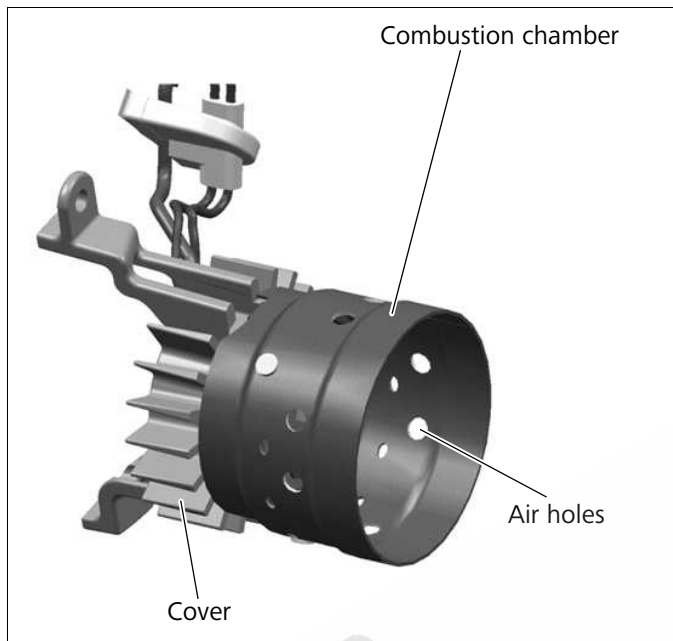

Fig. 702 Combustion chamber
- The cover and the combustion chamber (Fig. 702) must be firmly secured and have no play (check by lightly moving). The burner unit must otherwise be replaced.
- The fuel pipe must be firmly secured to the back plate and must have no play (check by lightly moving the fuel pipe). Replace the burner unit if there is play between the fuel pipe and back plate. The combustion chamber (Fig. 702) should not be damaged (e.g. dented). A dented combustion chamber can cause poor combustion or coking of the heater. The burner unit should be replaced in this case.
- The air holes (Fig. 702) in the burner unit should not be clogged. Clogged air holes can result in the burner not starting or poor combustion. Carefully scrape the air holes clear.